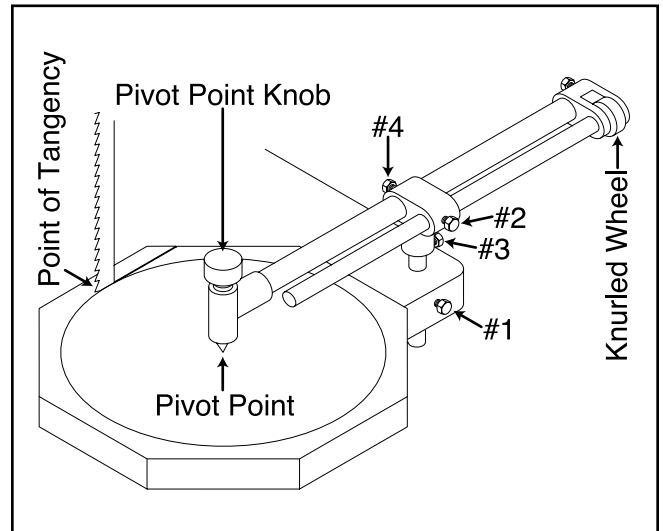

Figure 34. Circle cutting jig at work.
To adjust the circle cutting attachment (See **Figure 34**):
2. Determine a point of tangency on your stock and cut to that point. NOTE: On larger circles, it may be necessary to trim off the corners of your stock as shown in **Figure 34**.